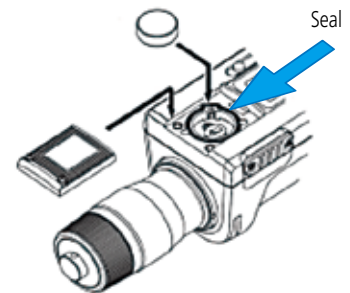

Fig. 2
8. When replacing the battery cap, make sure that the seal is properly seated. **(Fig. 2)**